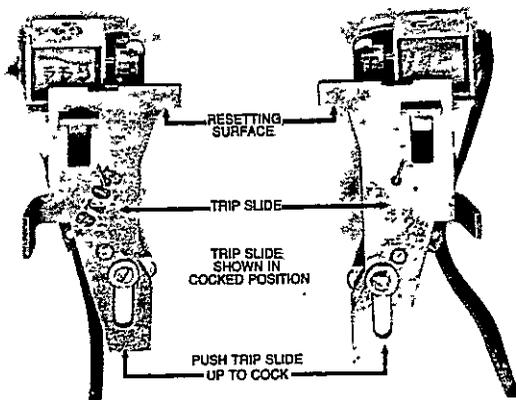

Fig. 4-L Fig. 4-R
- Disconnect all external leads from the terminal board. See Fig. 4.
2. For right side mounted device, Fig. 4-R:
3. For left side mounted device, Fig. 4-L.